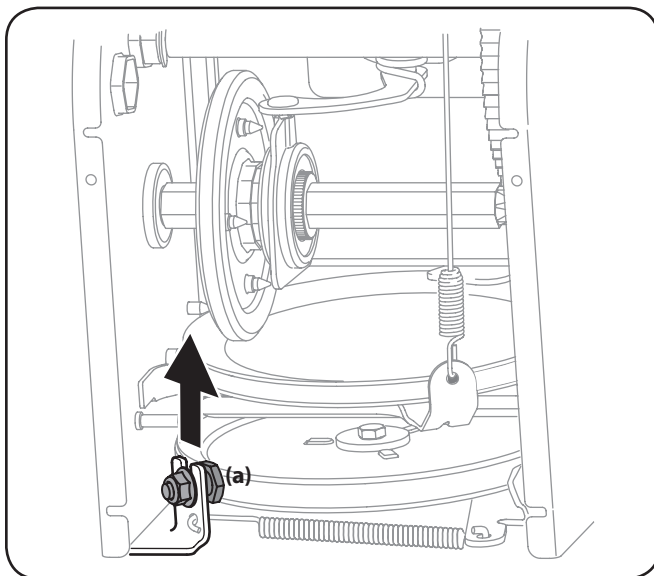

Figure 7-5
7. Loosen and remove the shoulder bolt (a) which acts as a belt keeper. See Figure 7-5.